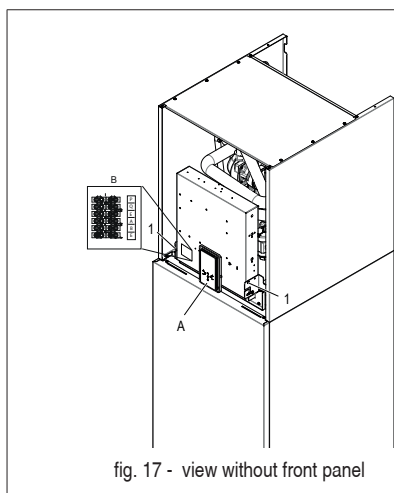
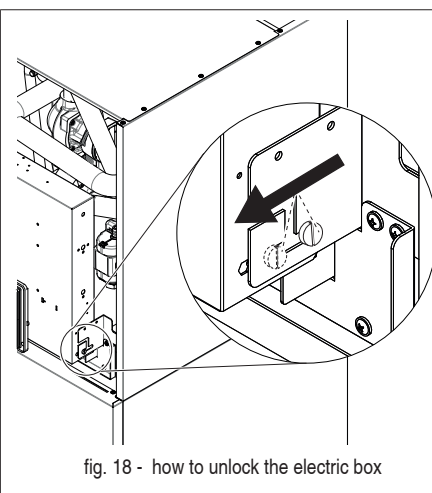
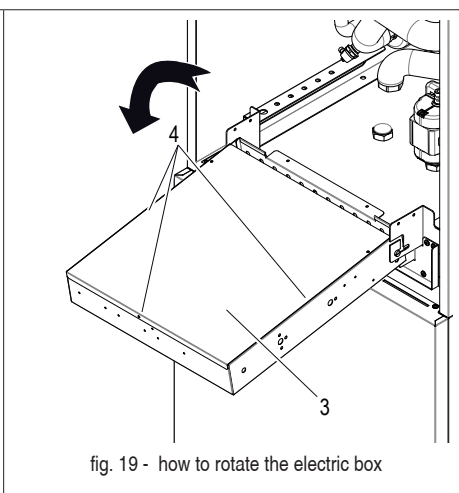

fig. 17 - view without front panel
fig. 18 - how to unlock the electric box
fig. 19 - how to rotate the electric box
To access to the terminals of the indoor unit unscrew the two screws (part. 1 - fig. 17) under the electrical box, then catch the electric box, and unlock (fig. 18), then rotate forward (fig. 19). Remove the back metal sheet (part. 3 - fig. 19) that is fixed with 4 screws (part. 4 - fig. 19).
- A Display panel and keyboard (fig. 17)
The terminal block (detail B fig. 17) is located on the left side of the boiler electric box. The terminal block is a male-female connector strip. There is an identification label of the 6 terminals available on the side of the terminal block.